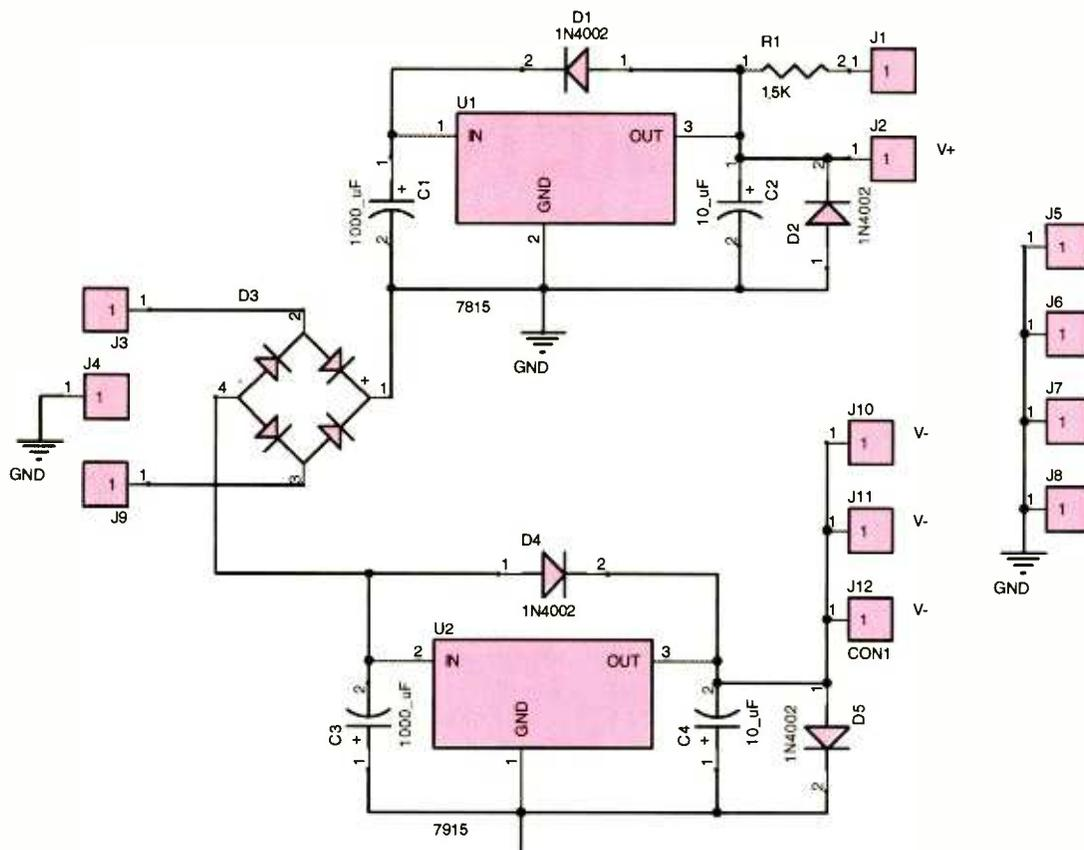

Fig. 1. Schematic diagram of the power supply.
**Circuitry Overview.** The ambience processor is composed of three PCBs and some chassis-mounted components. The three PCBs are a power supply, a controlling board, and a signal-processing board. The schematic diagrams of these three boards are shown at Figs. 1, 2, and 3, respectively. In these diagrams, the square outline designated as a "J" component (jack) is a soldering pad for point-to-point wiring to another pad or to a terminal of a chassis-mounted component.
Jacks J3 and J9 of the power supply at Fig. 1 are connected to the secondary winding of a chassis-mounted power transformer. Jack J4 is connected to the center tap of the secondary winding of the transformer. With respect to the center tap of the secondary winding or ground, the power supply board produces a regulated +15 volts taken at jacks J10 and J11 for the controlling and signal-processing boards, respectively, and -15 volts taken at jack J2 for the signal-processing board only.
## PARTS LIST FOR THE POWER SUPPLY (FIG. 1)
**Power Supply.** Returning to the drawing of the power supply shown at Fig. 1, recall that jacks J3 and J9 are connected to the end terminations of the secondary winding of the power transformer (not shown). Full-wave bridge rectifier D3 converts the AC voltage of the secondary winding to pulsating DC with a frequency of 120 Hz taken at its output terminations 1